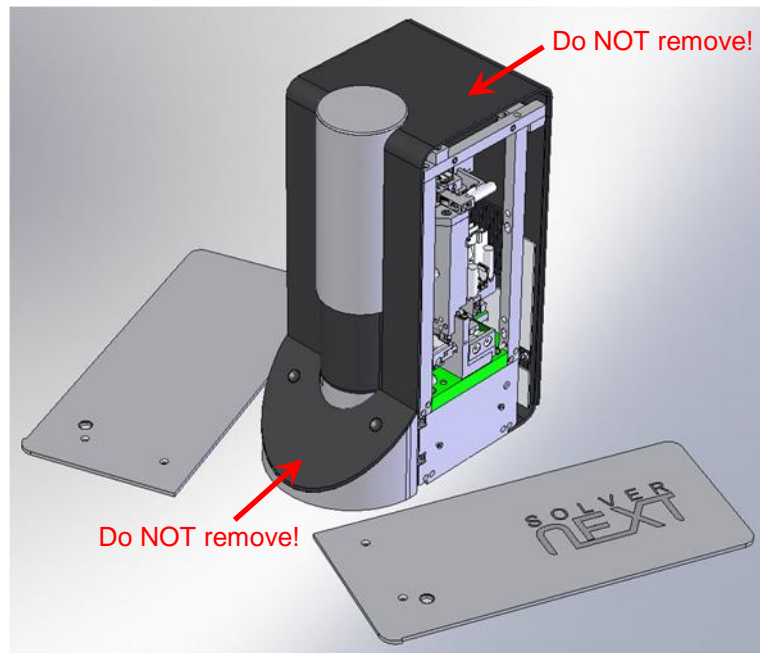

Fig. 3-1. Side panels of the measuring unit removed
1. Remove side panels of the measuring unit (see Fig. 3-1).
ATTENTION! Never remove the top and the front panels of the measuring unit (see Fig. 3-1) because they can be assembled only at the factory.